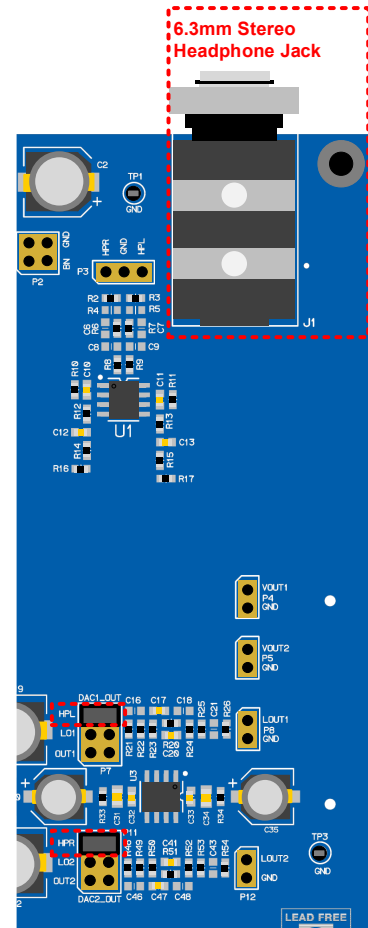

Figure 15: DAC Output to Headphone Output
- HPL/HPR – 2.1  $V_{RMS}$  single-ended headphone output circuit, shown in Figure 15.